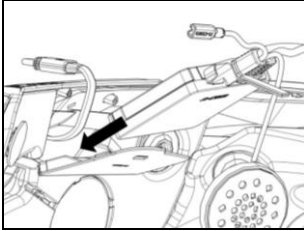

Fig. 6
- Position the e-box in its seat (Fig. 6).